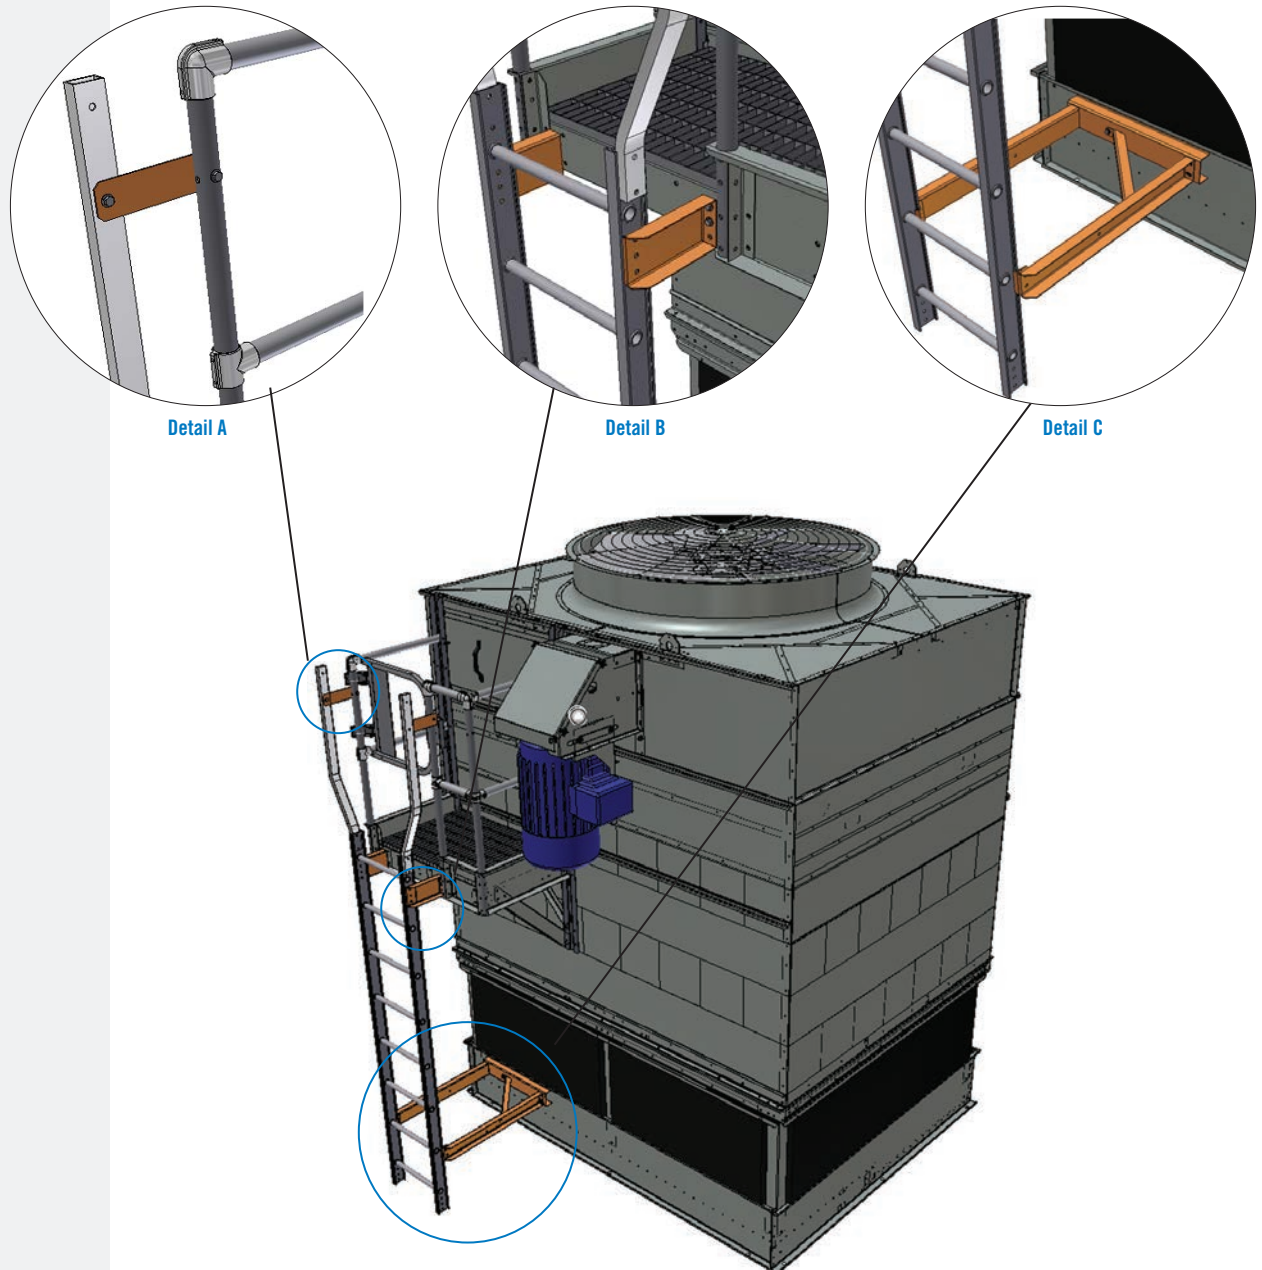

Figure 39. Mechanical Access Platform Ladder Installation for all Units Except for PF2/PC2-1218, PF2/PC2-1236, PF2/PC2-2418, and PF2/PC2-2436 Units
1. Assemble the lower support assembly as shown and attach the assembly to the unit using the lower support bracket. See **Detail C** in **Figures 39** or **41** for the figure that corresponds to your platform option.
2. Attach the ladder to the platform utilizing provided bolts as shown in **Detail A** and **B** in **Figures 39**, **40**, or **41**. When securing ladder to unit, orient all bolt heads inside of the ladder and use flatwashers and locknuts on all fasteners.